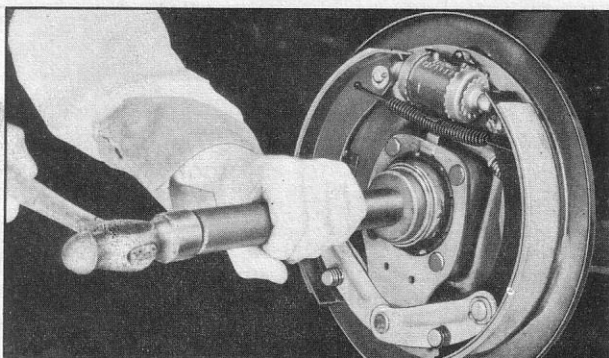

Fig. 12—Installing Axle Shaft Bearing and Oil Seal
3. Using bearing and retainer replacer J-8209 (fig. 12) place oil seal, bearing and inside bearing retainer on tool in that order.